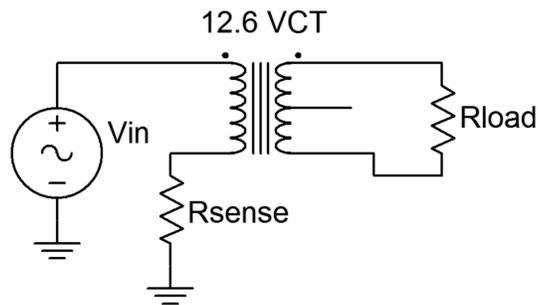

Figure 2
3. Build the circuit of Figure 2 using  $R_{sense} = 22 \Omega$ ,  $R_{load} = 10 \Omega$  and  $V_{in} = 5$  volt peak sine at 60 Hz. Place one scope probe across the load and the other across  $R_{sense}$ . Record the peak amplitudes in Table 2 and capture an image of the scope display.